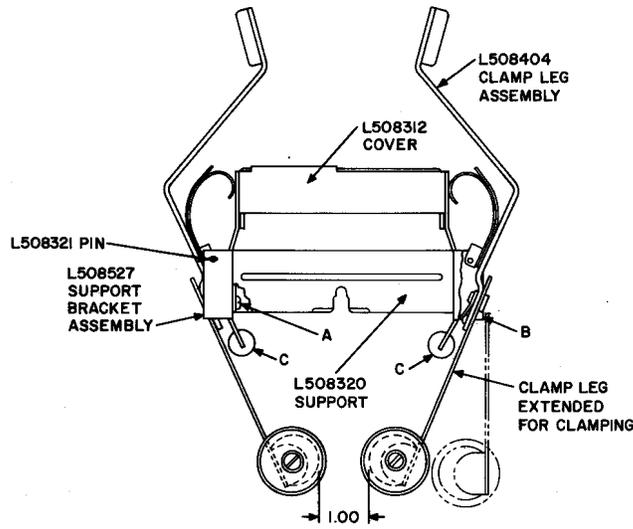
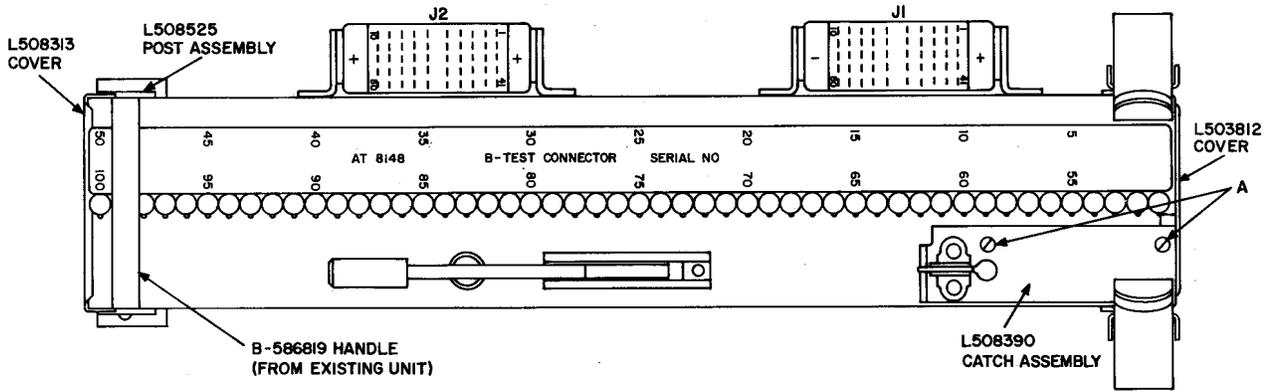
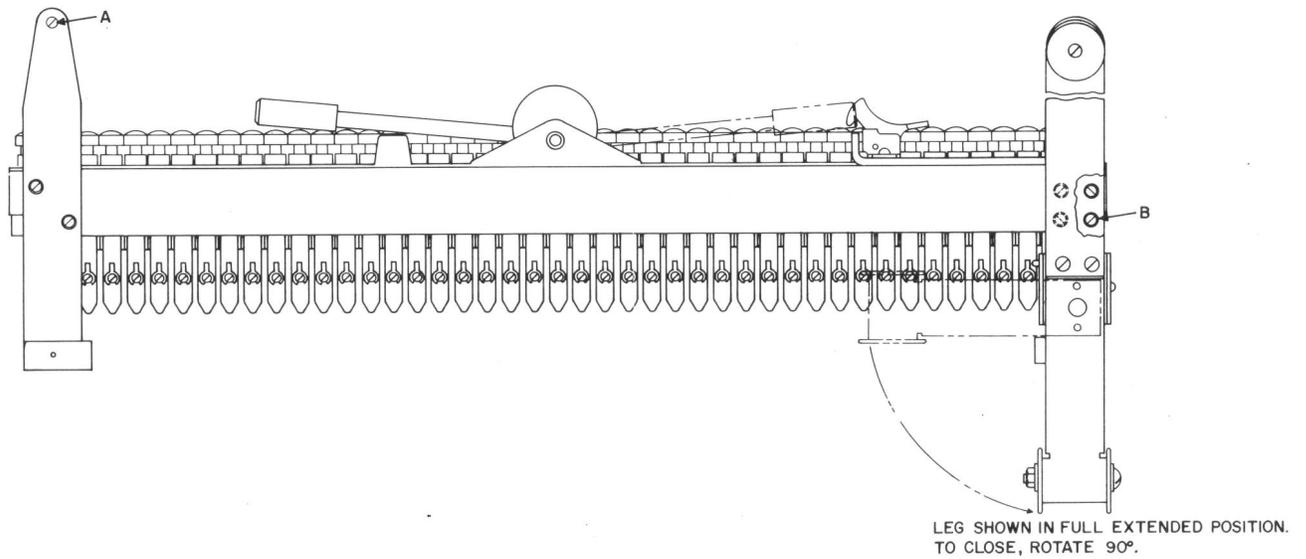

Fig. 9—B Test Connector—End View
Fig. 10—B Test Connector—Top View
Fig. 11—B Test Connector—Side View
- (4) Attach two L-508527 support bracket assemblies to the frame (Fig. 9) using eight No. 6 (0.138)-32 by 1/8 inch long flat head screws B (Fig. 11). Ensure that the edges of L503812 cover (Fig. 19) fit between the bracket and frame.
- (5) Attach the two new L-508525 post assemblies to the frame (Fig. 10) using four No. 6 (0.138)-32 by 1/8 inch long flat head screws C (Fig. 11). Ensure that the edges of L-503812 cover (Fig. 10) fit between the post assemblies and frame.
- (6) Attach the L-508320 support (Fig. 9) to the support brackets using four No. 6 (0.138)-32 by 5/16 inch long fillister head screws and No. 6 lock washers A (Fig. 9).
- (7) Attach the two L508404 clamp leg assemblies to the support brackets (Fig. 9) by inserting the L508321 pins through the aligned holes in the support brackets and pivot blocks in the clamp leg assemblies.
- (8) Adjust the clamp leg assemblies to clear the top of the support bracket assemblies to permit 90-degree rotation B (Fig. 11). Bend the clamp leg assemblies as necessary to obtain 1-inch clearance between the clamp legs when extended.
(9) After obtaining smooth operation of the clamp leg assemblies, upset the end of the L508321 pins to prevent withdrawal.
(10) Attach the B-586819 handle previously removed in step (2) between the L508525 post assemblies using the two No. 6 (0.138)-32 by 1/2 inch long round head screws and No. 6 lockwashers (Fig. 10).
(11) Remove and discard the two existing flat head screws A (Fig. 10). Attach the L508390 catch assembly using two No. 6 (0.138)-32 by 7/16 inch long flat head screws.